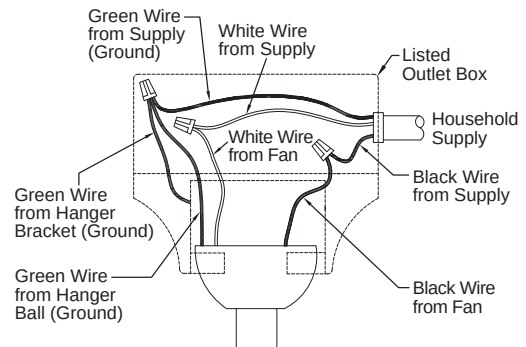

Figure 2
1. Connect the green grounding lead from the downrod/hanger ball assembly and the green grounding lead from the hanger bracket to the supply grounding conductor (this may be a bare wire or wire with green colored insulation). Securely connect wires with wire connectors. Securely connect the white fan motor wire to the white supply (neutral) wire using wire connector. Securely connect the black fan motor wire to the black supply wire using wire connector. (Figure 2)